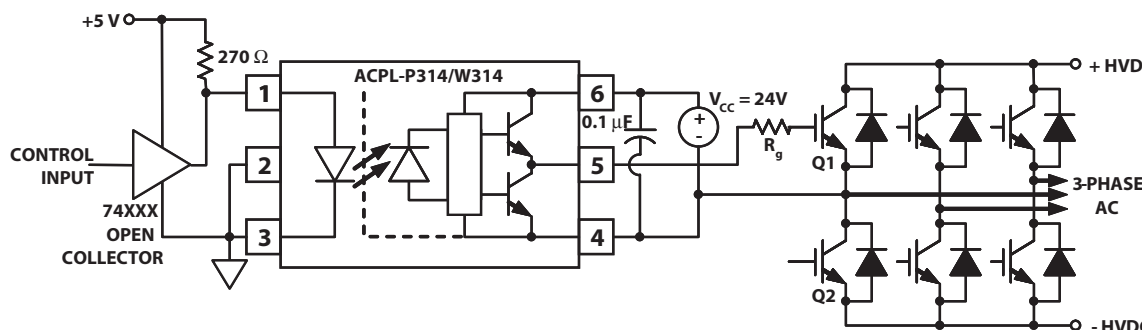
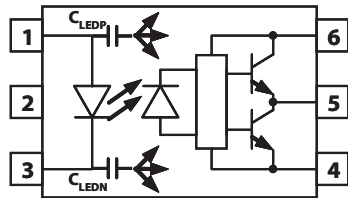
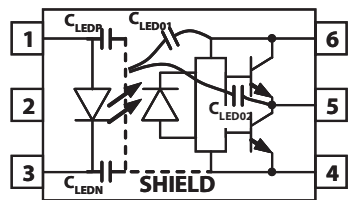
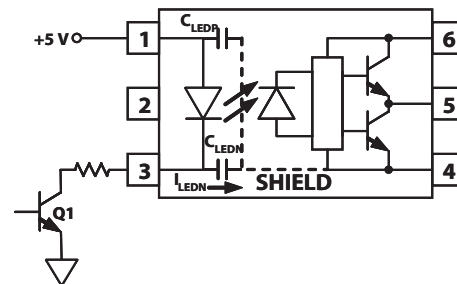

Figure 19. Recommended LED Drive and Application Circuit for ACPL-P314/W314
Figure 21. Optocoupler Input to Output Capacitance Model for Unshielded Optocouplers.
Figure 22. Optocoupler Input to Output Capacitance Model for Shielded Optocouplers.
Figure 24. Not Recommended Open Collector Drive Circuit.
To keep the IGBT firmly off, the ACPL-P314/W314 has a very low maximum V_{OL} specification of 1.0 V. Minimizing R_g and the lead inductance from the ACPL-P314/W314 to the IGBT gate and emitter (possibly by mounting the ACPL-P314/W314 on a small PC board directly above the IGBT) can eliminate the need for negative IGBT gate drive in many applications as shown in Figure 19. Care should be taken with such a PC board design to avoid routing the IGBT collector or emitter traces close to the ACPL-P314/W314 input as this can result in unwanted coupling of transient signals into the input of ACPL-P314/W314 and degrade performance. (If the IGBT drain must be routed near the ACPL-P314/W314 input, then the LED should be reverse biased when in the off state, to prevent the transient signals coupled from the IGBT drain from turning on the ACPL-P314/W314.
Step 1: Calculate R_g minimum from the I_{OL} peak specification. The IGBT and R_g in Figure 19 can be analyzed as a simple RC circuit with a voltage supplied by the ACPL-P314/W314.
where $K_{IC} \cdot Q_g \cdot f$ is the increase in I_{CC} due to switching and K_{IC} is a constant of 0.001 mA/(nC*kHz). For the circuit in Figure 19 with I_F (worst case) = 10 mA, $R_g = 32 \Omega$, Max Duty Cycle = 80%, $Q_g = 100$ nC, $f = 20$ kHz and $T_{AMAX} = 85^\circ\text{C}$:
Without a detector shield, the dominant cause of optocoupler CMR failure is capacitive coupling from the input side of the optocoupler, through the package, to the detector IC as shown in Figure 21. The ACPL-P314/W314 improves CMR performance by using a detector IC with an optically transparent Faraday shield, which diverts the capacitively coupled current away from the sensitive IC circuitry. However, this shield does not eliminate the capacitive coupling between the LED and optocoupler pins 5-8 as shown in Figure 22. This capacitive coupling causes perturbations in the LED current during common mode transients and becomes the major source of CMR failures for a shielded optocoupler. The main design objective of a high CMR LED drive circuit becomes keeping the LED in the proper state (on or off) during common mode transients. For example, the recommended application circuit (Figure 19), can achieve 10 kV/ μ s CMR while minimizing component complexity.
The open collector drive circuit, shown in Figure 24, can not keep the LED off during a $+dV_{CM}/dt$ transient, since all the current flowing through C_{LEDN} must be supplied by the LED, and it is not recommended for applications requiring ultra high CMR1 performance. The alternative drive circuit which like the recommended application circuit (Figure 19), does achieve ultra high CMR performance by shunting the LED in the off state.